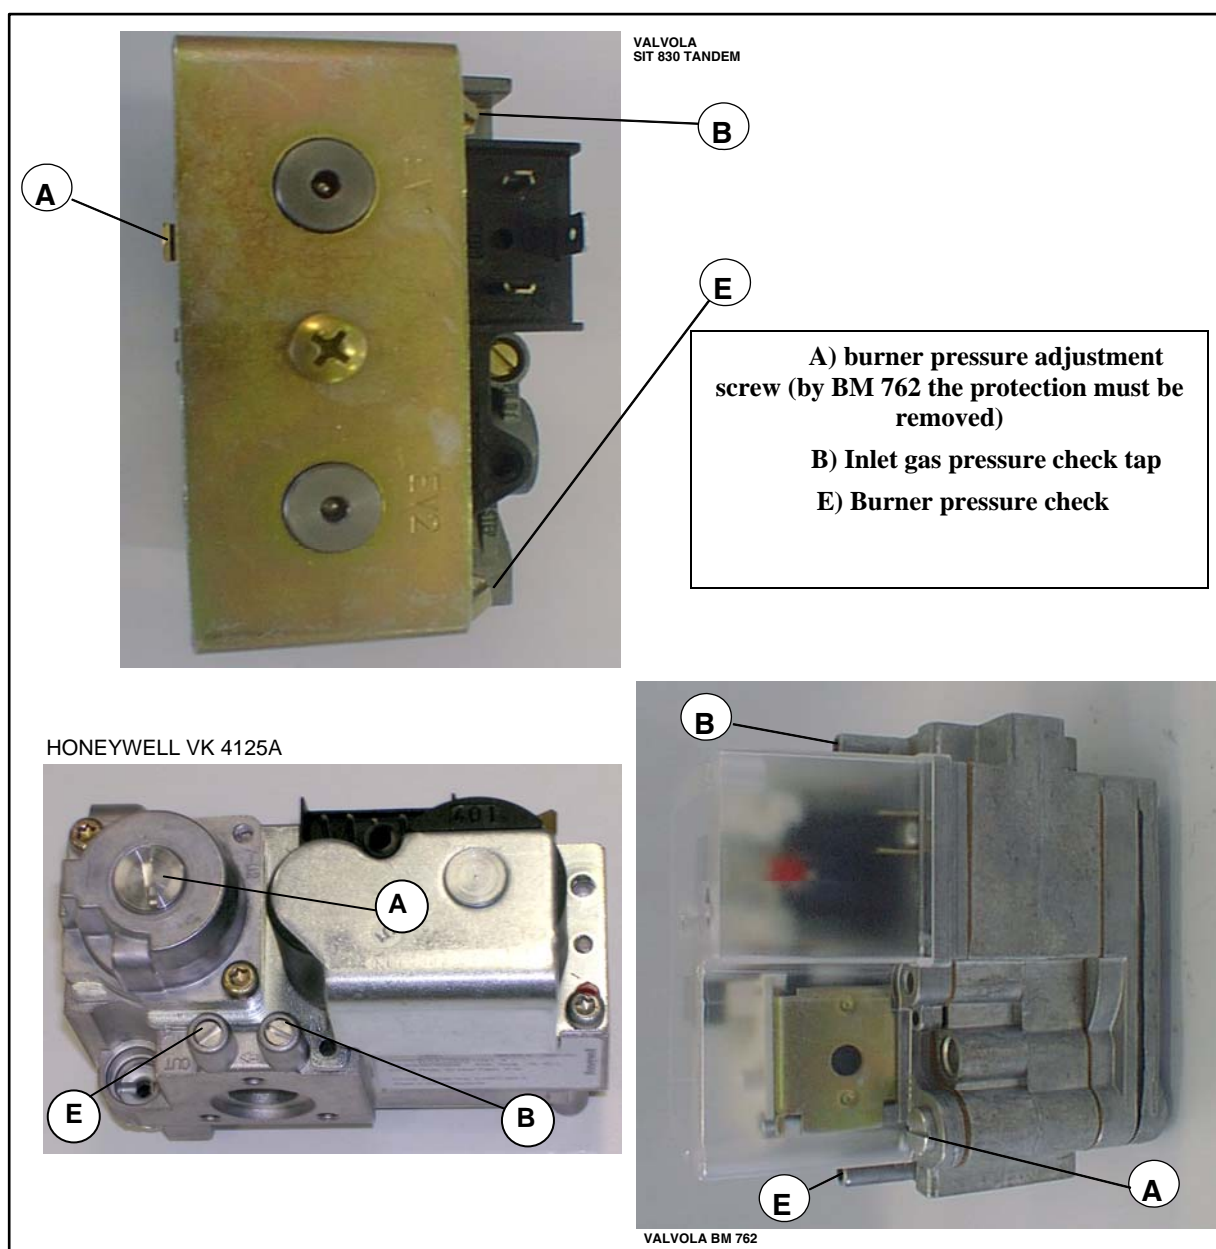

Figure 14
- Natural Gas: the pressure is to be adjusted by turning the adjustment screw A (figure 14)
Before adjustment of the burner pressure identify TYPE OF THE GAS VALVE installed in the appliance (see figure 14), than proceed as following: